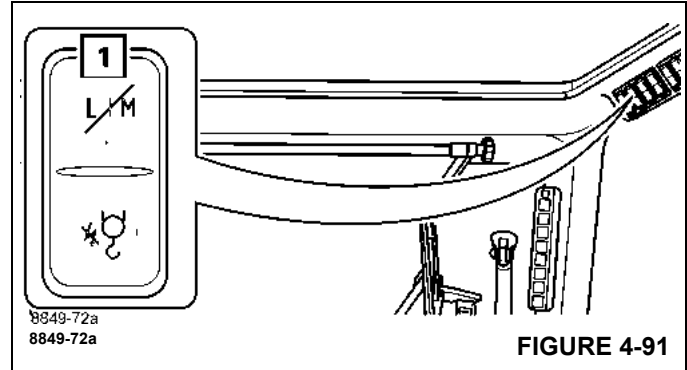

FIGURE 4-91
- Push the button (1), (Figure 4-91) up, and hold it.
Push the button (1), (Figure 4-91) down, and hold it.
As long as the button (1), (Figure 4-91) is kept pushed, the Anti Two-Block Switch is overridden. This is also true for the RCL override.